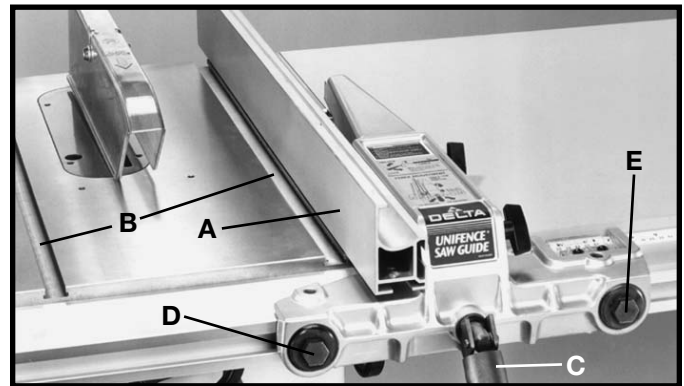

Fig. 82
The fence (A) Fig. 82, should be adjusted so it is parallel to miter gage slots (B). To check and adjust, move the fence (A) until the bottom front edge of the fence is in line with the edge of the miter gage slot as shown, and push down on fence clamping lever (C). Check to see if the fence is parallel to the miter gage slot the entire length of the table. If the rear of the fence must be moved, slightly tighten or loosen one of the adjustment plugs (D) or (E) Fig. 82, using the arbor wrench or a 7/8" wrench, until the fence is parallel with the miter gage slot. **IMPORTANT: DO NOT OVER-TIGHTEN PLUGS (D) AND (E) FIG. 82. VERY LITTLE MOVEMENT OF THESE PLUGS IS NECESSARY WHEN ADJUSTING THE FENCE PARALLEL WITH THE MITER GAGE SLOT.**